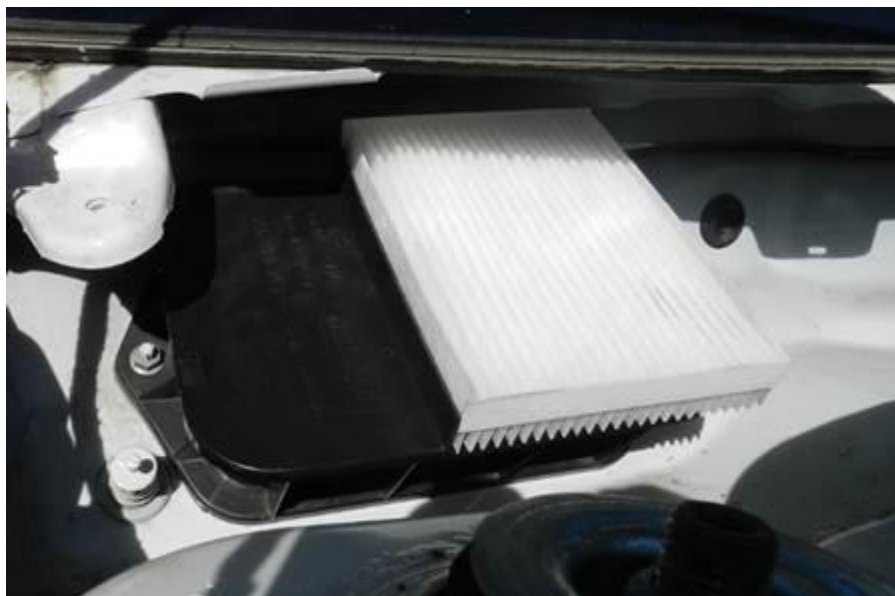

Figure 1: example Jetta: filter housing (part number 5C6 819 343). Figure 2) red arrows mark the mounting points of the clips (part number 7L6 133 847 A).
- Position the filter housing (part number 5C6 819 343) with 3 clips (part number 7L6 133 847 A) on the induction flange, see figure 1 and 2, red arrows.